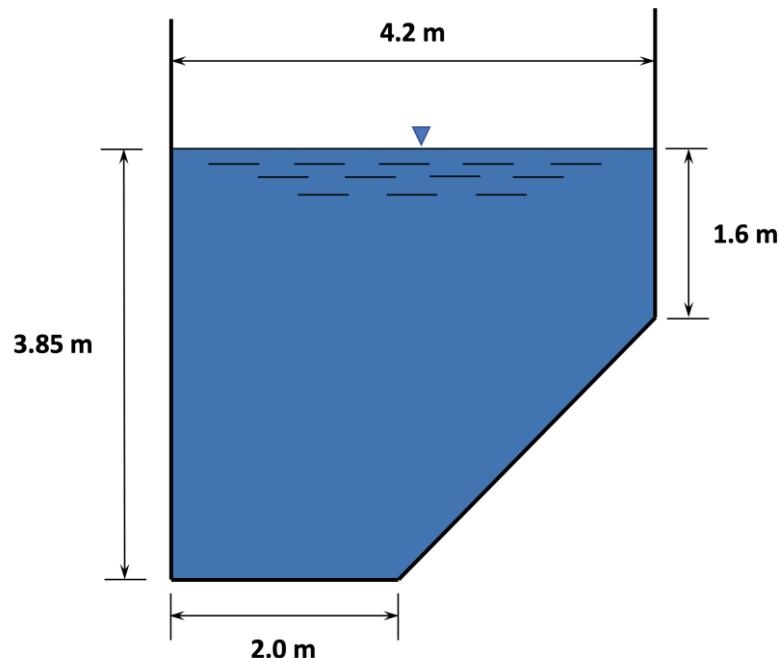

Figure 5/ Rajah 5
- (b). A float-finished concrete channel as shown in **Figure 5**, was designed for water to flow at a rate of $40 \text{ m}^3/\text{s}$. Determine the required longitudinal slope of the channel bottom per kilometer of length.